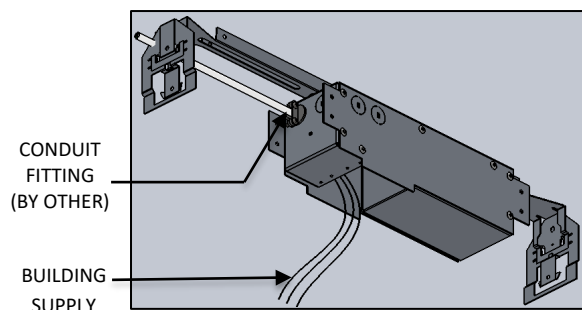

FIG. 18- CONDUIT FITTING TO J-BOX ASSEMBLY
14. Remove the desired knock out and attach appropriate 1/2" CONDUIT FITTING and pull the BUILDING SUPPLY wires through the opening as shown below in FIG. 18.